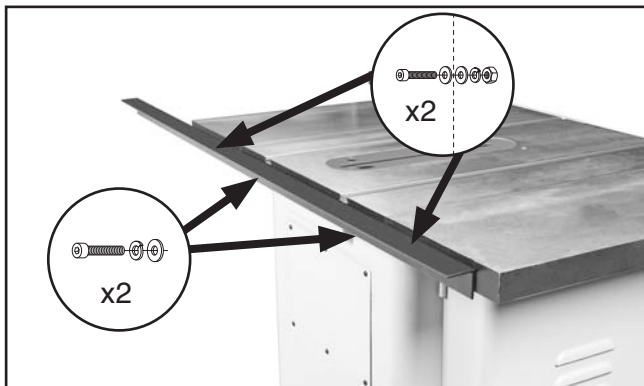

Figure 20. Rear rail installed.
- Attach the rear rail to the holes on the main table using two M10-1.5 x 25 cap screws, 10mm lock washers, and 10mm flat washers, as shown in **Figure 20**. Check to make sure the rear rail is parallel to the table and below the miter slots before completely tightening the cap screws.